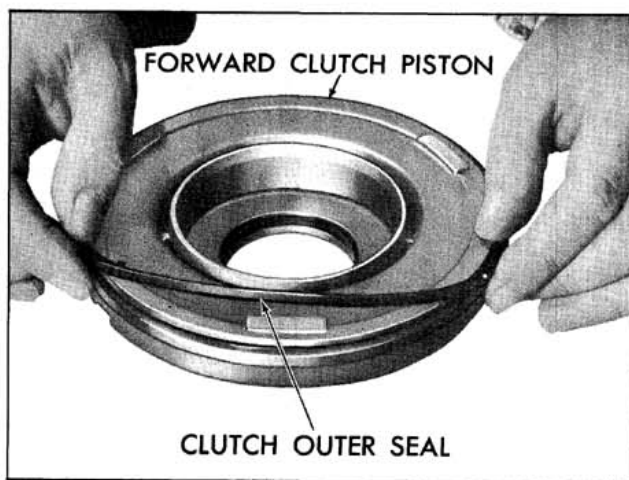

Fig. 6-138 Installing Piston Outer Seal
1. Place new inner and outer oil seals on clutch piston, lips face away from spring pockets. (Figs. 6-138 and 6-139)